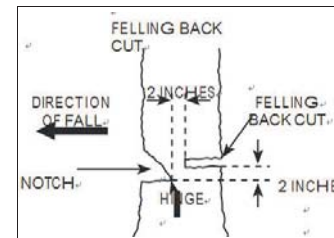

Fig.10
7.3.2 FELLING BACK CUT (FIG.10)